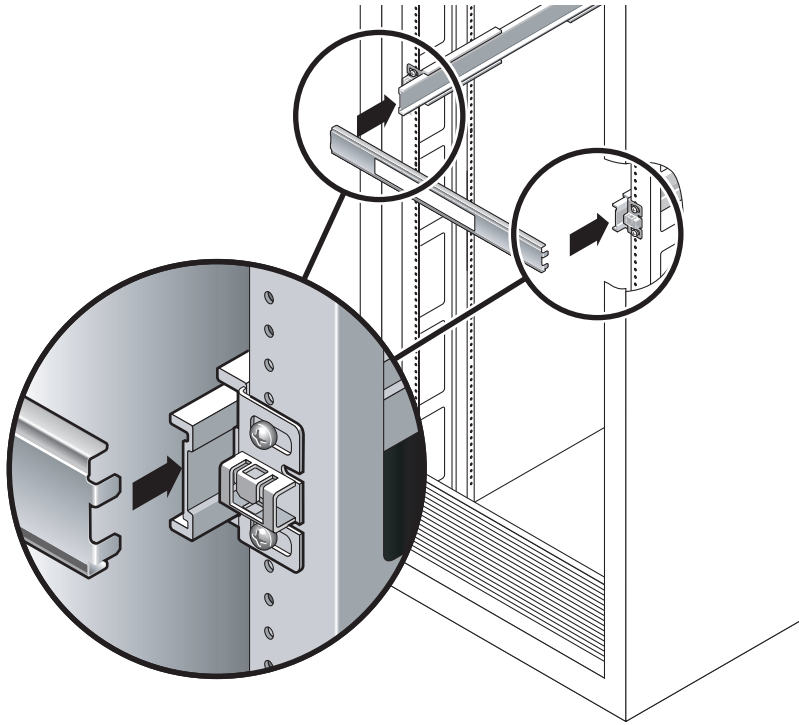

FIGURE 3-28 Adjusting the Distance Between the Slide Rails
- a. At the front of the rack, plug the left side of the tool into slots at the end of the left rail (FIGURE 3-28).